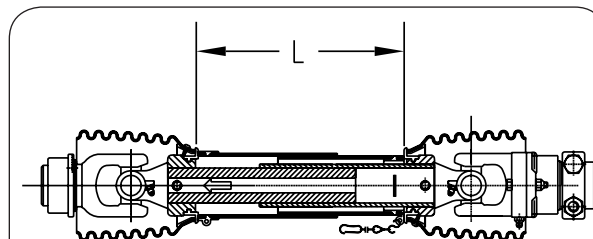

FIG. 4-68
1. Fully collapse PTO shaft and measure length "L" (Fig. 4-68).